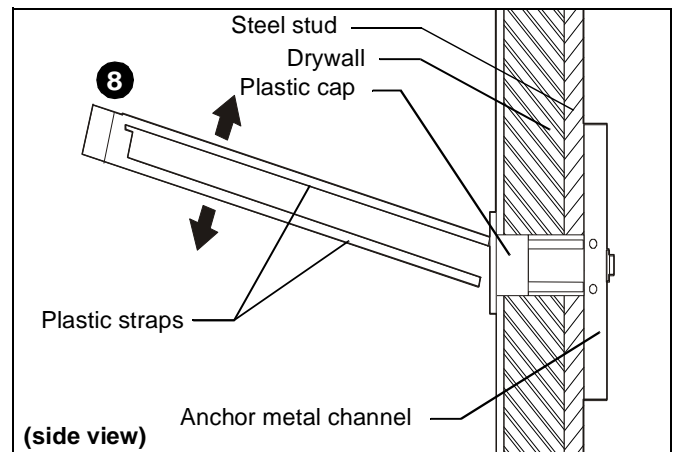

Figure 11
- Snap off plastic straps on anchor at wall by pushing side to side, snapping off straps level with flange of plastic cap. (See Figure 11)